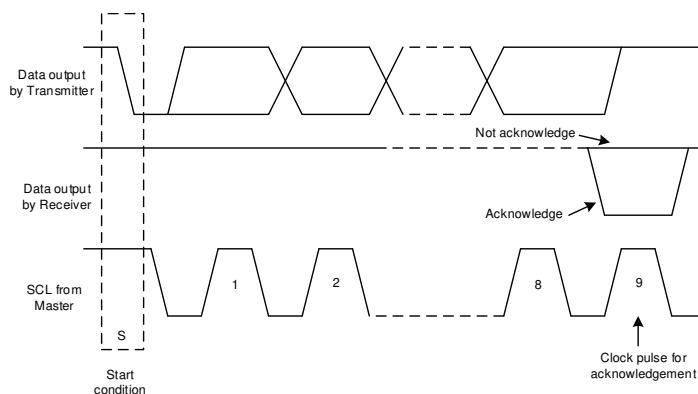
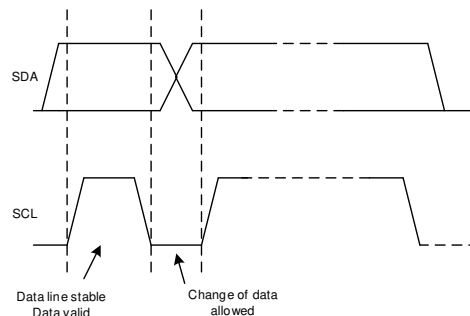

图 59. Acknowledge and Not Acknowledge on the I²C Bus
图 61. Bit Transfer on the I²C Bus
Other than specific timing signals, the I²C interface works with serial bytes. At the end of each byte, a ninth clock cycle generates and detects an acknowledge signal. Acknowledge is when the SDA line is pulled low during the high period of the ninth clock cycle. A not-acknowledge is when the SDA line is left high during the high period of the ninth clock cycle as shown in 图 59.
2. The master then generates the SCL pulses, and transmits the 7-bit address and the read/write direction bit (R/W) on the SDA line. During all transmissions, the master makes sure that data are valid. A valid data condition requires the SDA line to be stable during the entire high period of the clock pulse, as shown in 图 61. All devices recognize the address sent by the master and compare it to their internal fixed addresses. Only the slave device with a matching address generates an acknowledge by pulling the SDA line low during the entire high period of the 9th SCL cycle, as shown in 图 59. Upon detecting this acknowledge, the master knows the communication link with a slave has been established.